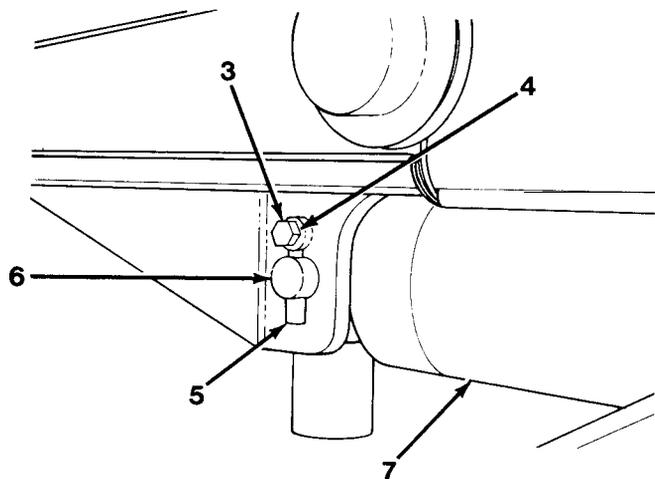

Figure 15-5
4. Install pin (6), rod (5), lockwasher (4) and capscrew (3) on boom hoist cylinder (7, Figure 15-5).